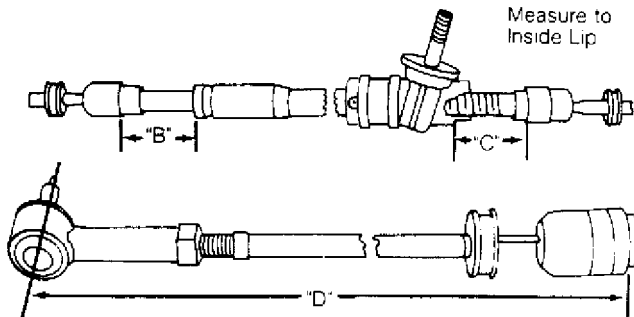

Fig. 1: Installation Adjustment of Tie Rods on Rack
4) When measurements are correct, secure tie rods with lock nuts. Install rubber boots. See Fig. 1.